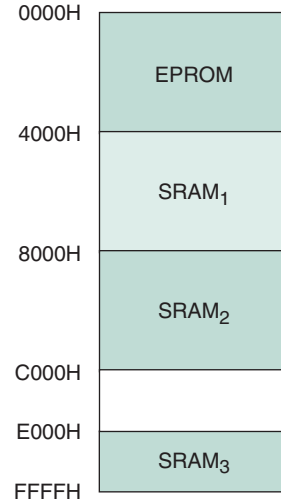

FIGURE 13.30
13.25 The memory map of a microcontroller system with a 16-bit address bus is shown in Figure 13.30. Make a table of start and end addresses for each of the blocks shown. Indicate the size of each block.